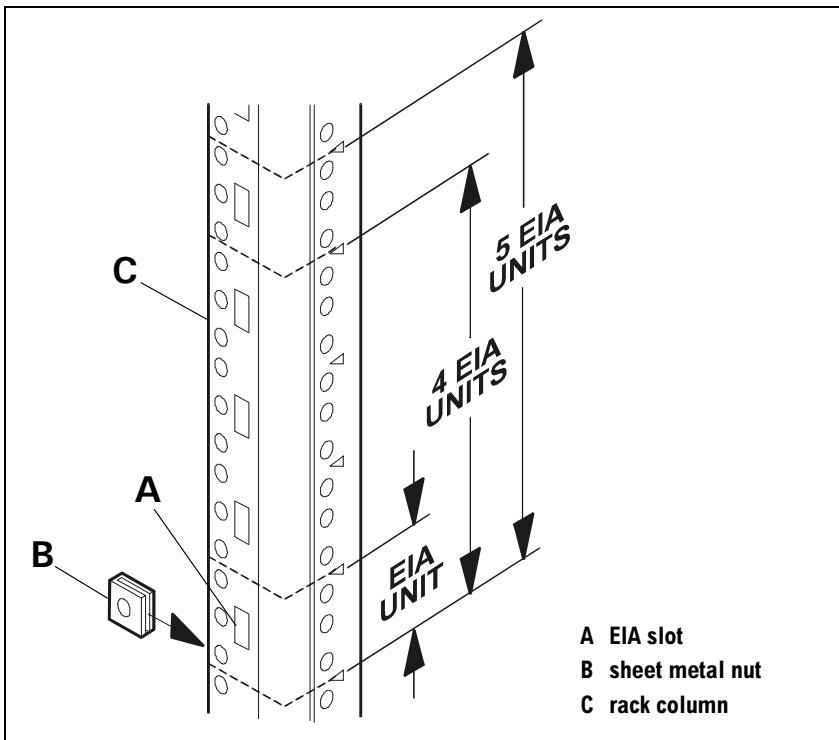

Figure 15 Rack Column Detail – Legacy Racks
The disk system consumes 4 EIA Units (U) in an HP legacy rack, 3.5 for the product and .5 for the rail. Select an empty space 4 U high and install a sheet metal nut (B in Figure 15) opposite the bottom slot (A).